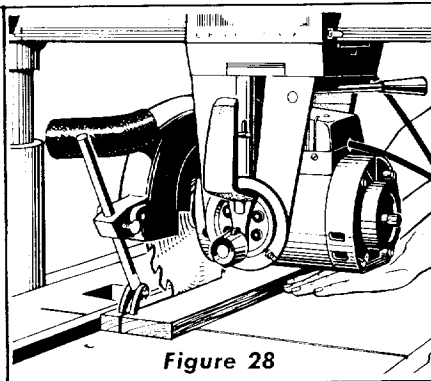

Figure 28
**IN-RIPPING**—In-rip refers to a position when the blade is between the motor and the fence and parallel to the fence. See Figure 28. To place the saw in this position, unlock the yoke, disengage the swivel latch pin and rotate the yoke 90° clockwise (viewing it from the carriage) until the swivel latch pin automatically indexes the yoke 90°. Relock the yoke. See "Adjustment of Pointers" to check accuracy of "In-Rip" scale reading. Position the motor on the radial arm until the pointer on the "In-Rip" scale indicates the desired width of the finished cut board. Tighten the carriage lock knob securely. Position the discharge elbow on the guard so that sawdust will be blown toward the rear of the saw. Turn the saw "On" and lower the radial arm until the saw blade cuts into the table top about  $\frac{1}{32}$ ". Turn the saw "Off". Now adjust the saw guard and anti-kickback pawl assembly as described in the paragraph "Ripping". The board to be ripped must be fed into the saw blade from the right side of the table, therefore, the normal position for the operator is also at the right side of the table. With the left hand safely clear of the blade and holding the board to be ripped down against the table and against the face of the fence as a guide, use the right hand to feed the board into the saw. The left hand should remain stationary, serving as a guide only. As the right hand approaches the left hand, hold a push stick with the right hand to complete the cut. Do not leave a long board unsupported so that the spring of the board causes it to shift on the table. A support like that described in "Cross-Cutting" can be used to support the board behind the blade; and if the board is very long, use another support in front of the saw. Ripped boards up to 8 $\frac{3}{8}$ " wide can be cut in the In-Rip position.